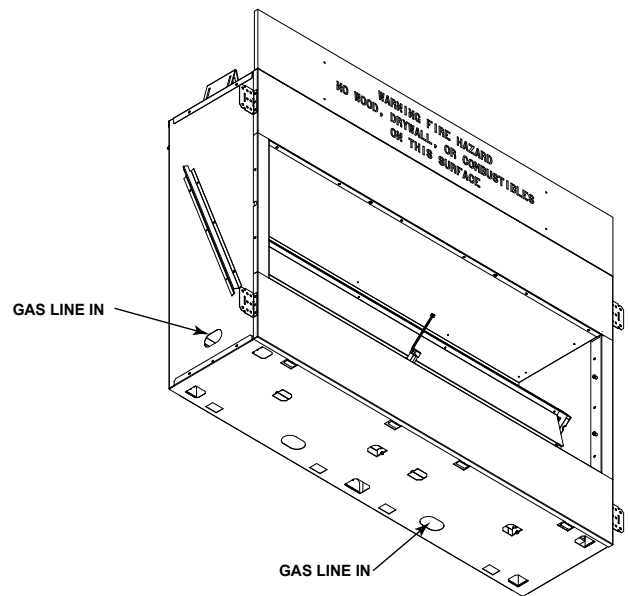

Figure 5.4 - Gas Line In
- Pipe incoming gas line into valve compartment. Gas line may be run through the left side or right bottom of the appliance. See Figure 5.4.